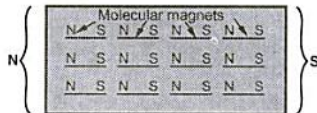

Fig. 3.4 Magnetized piece of material
So at any joint, effective strength at a point is zero, due to presence of two unlike poles. Such poles cancel each other's effect. But if magnetized material is considered or unmagnetized material subjected to magnetizing force is considered, then such small molecular magnets arrange themselves in the direction of magnetizing force, as shown in the Fig. 3.4.
1) When magnetizing force is applied, immediately it is not possible to have alignment of all such small magnets, exactly horizontal as shown in the Fig. 3.4. There is always some limiting magnetizing force exists for which all such magnets align exactly in horizontal position.